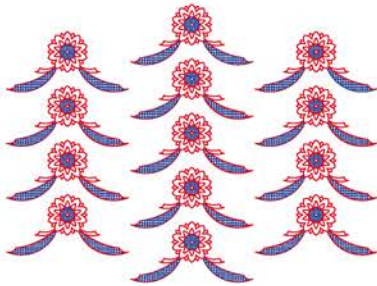

Fig. 14.25 Exercise 1 – original pattern
- Fig. 14.25 shows a pattern formed by inserting an **external reference** and then copying or arraying the **external reference**.